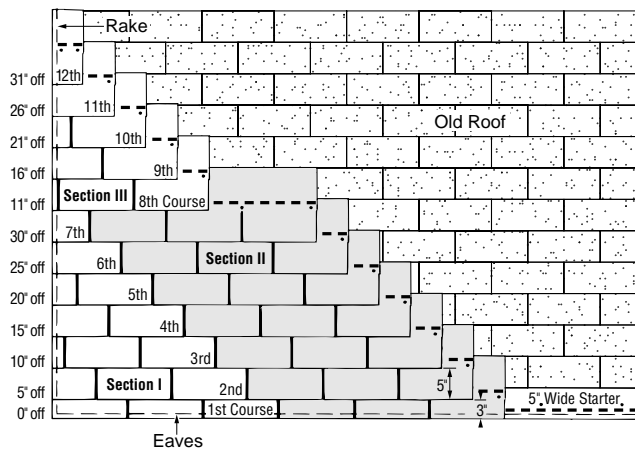

Figure 12-21: Five Off, Twelve Up, Nested.
1ST COURSE: The first course is made of 10" by 36" shingle strips made by cutting 2" off the bottom of the tabs of regular shingles. Align the top edge of the strips so they butt up against the tabs of the shingles in the old third course (Figure 12-21).
- Begin the second course by cutting 5" off the left end of a shingle and aligning the top edge with the butt edge of the shingle in the old fourth course (Figure 12-21).
- Begin the eighth course by cutting 11" off the left end of a shingle and applying the 25" piece over the seventh course shingle, aligned with the left edge of the seventh course (Figure 12-21).